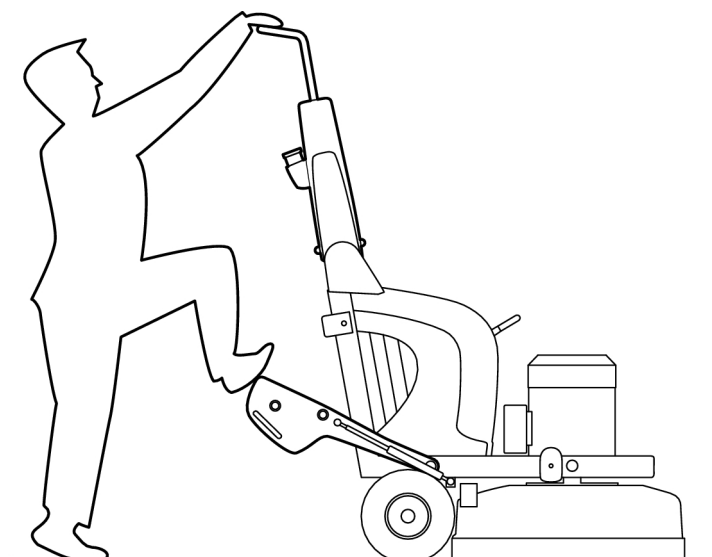

Figure 4-8. Foot on weight
2. Fold the weights back and place a foot on one of the weights, see Figure 4-8, page 20.